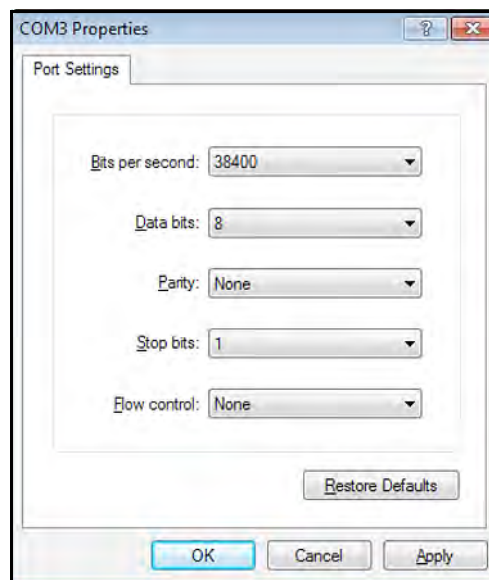

Figure 14: COM Properties
2. Start *HyperTerminal* and set up the communication link to match the Com port and RS232 settings of the PT878 (see *Figure 14* below).